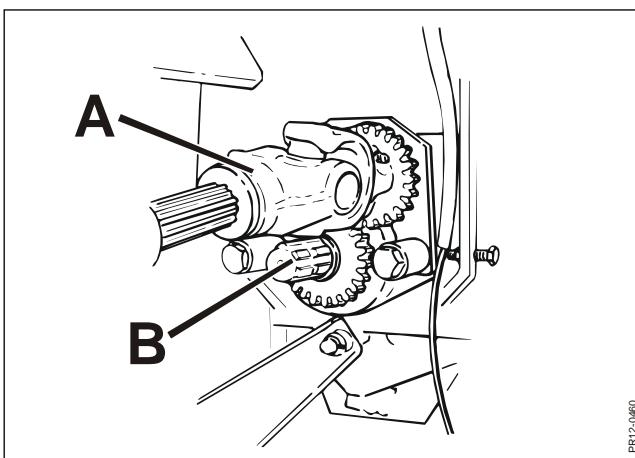

Fig. 6-7
- Fig. 6-7** 2) Move the PTO shaft **A** for the rotor to the alternative pin in **pos. 1**, where the gear wheels are not in mesh. Thereby the rotor is not driven.
- Fig. 6-7** 3) Connect the power take-off again at low number of rpm, move the reverse function to reverse position and reverse the material out of the machine.